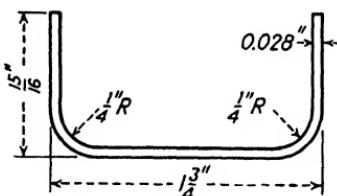

Fig. 320.—Two bends, each 90°.
- 86.** Calculate the developed length of the part shown in Fig. 320.